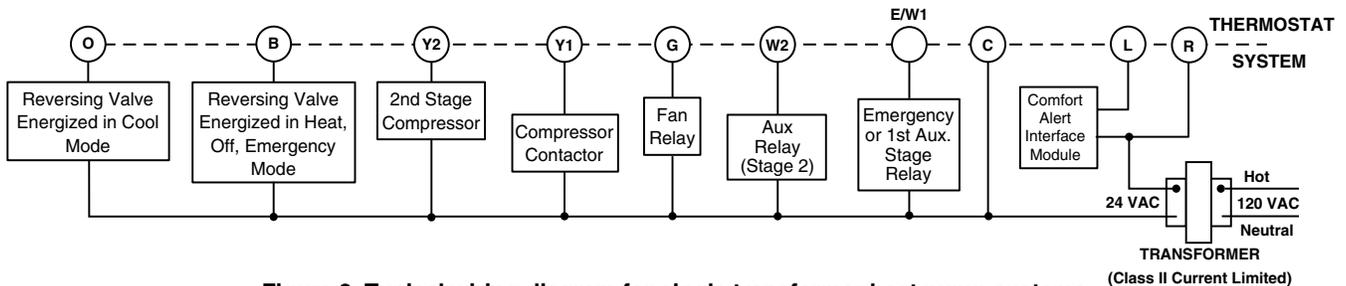

Figure 2. Typical wiring diagram for single transformer heat pump systems
2. Connect wires beneath terminal screws on base using appropriate wiring schematic (see figs. 2 through 5).